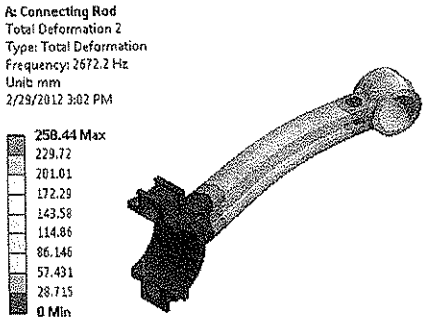

Figure 10-33 Second mode shape
9. Similarly, select **Total Deformation 2** from the Tree Outline; the second mode shape is displayed in the Graphics screen, as shown in Figure 10-33.